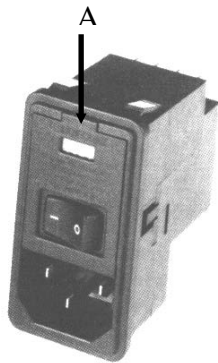
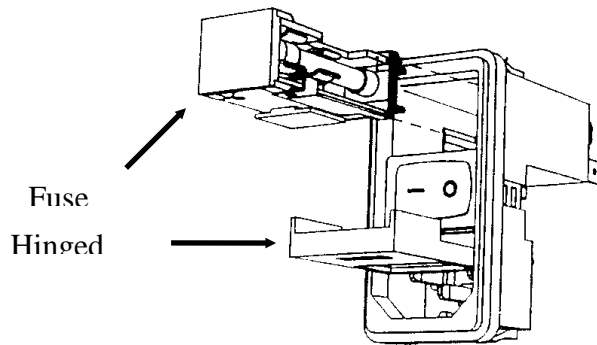

Figure 2-1
Figure 2-2
Unpack the LC Column Oven and check the voltage setting on the Power Entry Module on the back panel of the oven (see Figure 2-1). Make certain the voltage setting agrees with the power to be supplied to the unit. An oven which is connected to a 100-120Vac voltage source should have a voltage setting of “115V”, and an oven connected to a 220-240Vac voltage source should have a voltage setting of “230V”. The LC Column Oven can be ordered with either of the two voltage configurations.
1. Remove the power cord from the power entry module (see Figure 2-1) located in the rear of the pump.
2. Using a small, flat-blade screwdriver, carefully pry out the power entry module cover at point A, Figure 2-1. The hinged cover will swing down as shown in Figure 2-2.
3. Using a small, flat-blade screwdriver, carefully pry out at the top of the fuse tray and carefully remove the tray as illustrated in Figure 2-2.
7. With the two proper fuses in the tray, orient the tray with the two fuses at the sides and the **230V marking at the top**, as shown in Figure 2-2, and insert it with the metal tabs first into the top of the power entry module until it is firmly seated in place. It may be necessary to squeeze the two fuses at the rear to permit them to enter the power module housing. Close the power entry module cover by pressing at the top center until it snaps into place. Insert a suitable 230V power cord.
7. With the clip and proper fuse in the tray, orient the tray with the fuse at the side and the **115V marking at the top**, as shown in Figure 2-2, and insert it with the metal tabs first into the top of the power entry module until it is firmly seated in place. It may be necessary to squeeze the fuse at the rear to permit it to enter the power module housing. (If the clip and fuse are on the incorrect sides of the tray, it will not be possible to place the tray into the power entry module). Close the power entry module cover by pressing at the top center until it snaps into place. Insert a suitable 115V power cord.